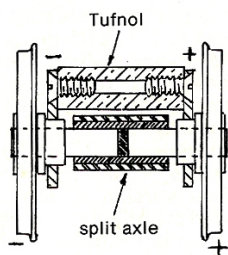

Fig 1
7. Split axles with the centres insulated from the ends, current being collected via the wheels, bearings and insulated frames as per figure 1.
The best, strongest and simplest split axle is that shown in figures 1 and 3a. However, these do require axleboxes in
General details are shown in figures 1 and 4. I usually use a length of Carp brand Tufnol, milled to width as a frame spacer. The sideframes, cut as a pair, are then screwed and dowelled each side with their top edges set about ten thou below the top of the Tufnol to prevent shorts by contact with the loco footplate. The Tufnol is then cut away where the gearbox, motor, inside motion etc are to be sited.